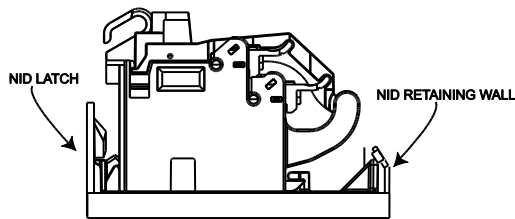

Figure 5
3. Using your thumb, pull the NID latch to the left. Press the CBM down and release the NID latch to secure the CBM into position, (See Figure 5).